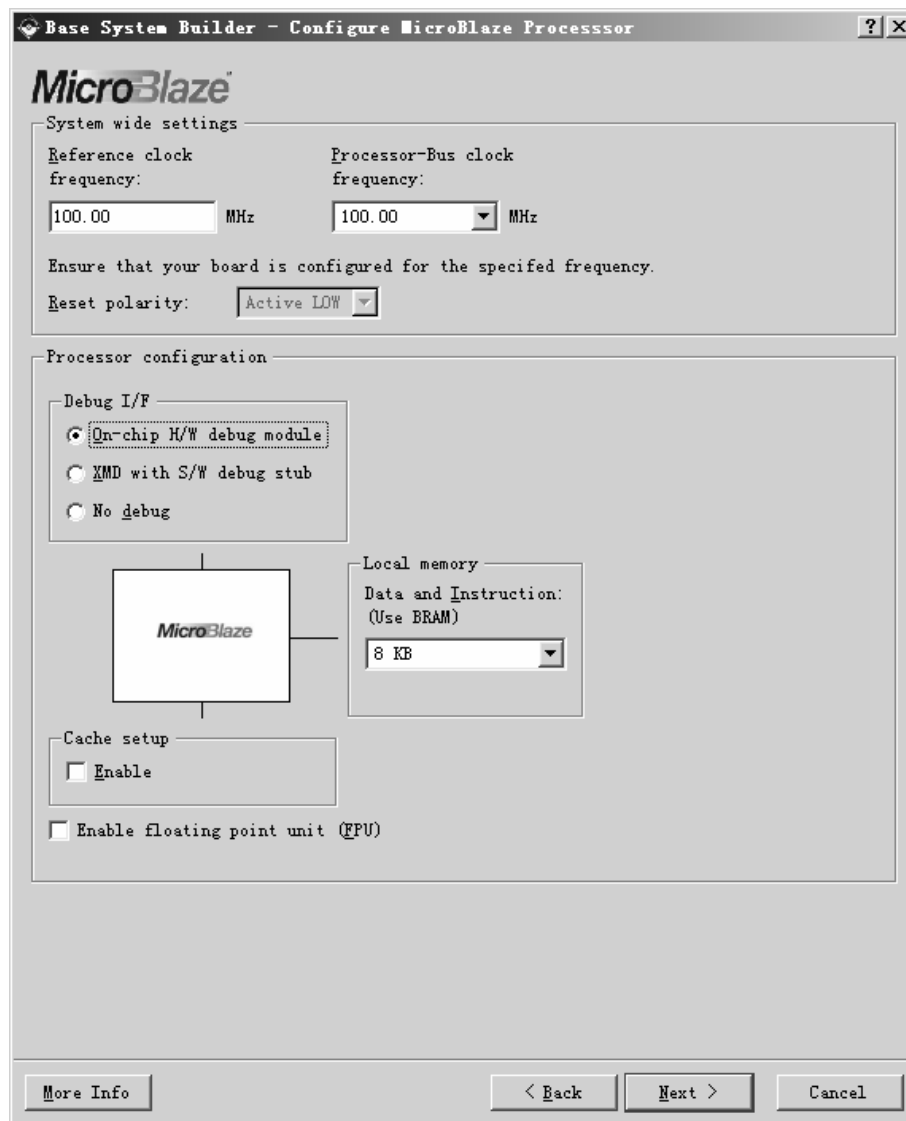

Figure 3: Configure Processor
- Click **Next**. You will now specify several processor options as shown in Figure 3:
The following is an explanation of the settings specified in Figure 3: